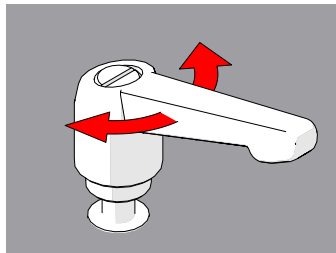

Fig. 28 - Rotate handle
2. Continue to pull while rotating the lever in the appropriate direction (Fig. 28).